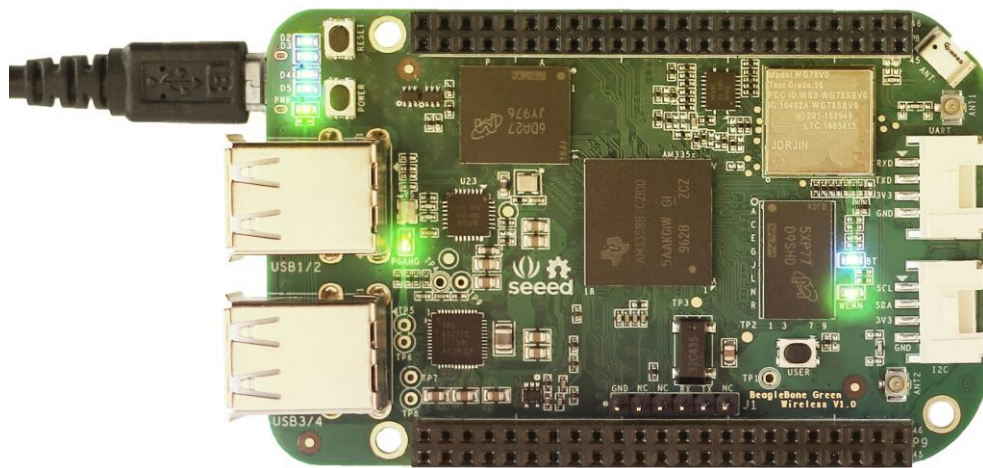

Figure 6. USB Connection to the Board
1. Use the provided USB cable to plug your Beagle into your computer. The board will power on and the power LED will be on as shown in **Figure 6** below.
Figure 6 below shows the locations of key components on the PCB layout of the board.